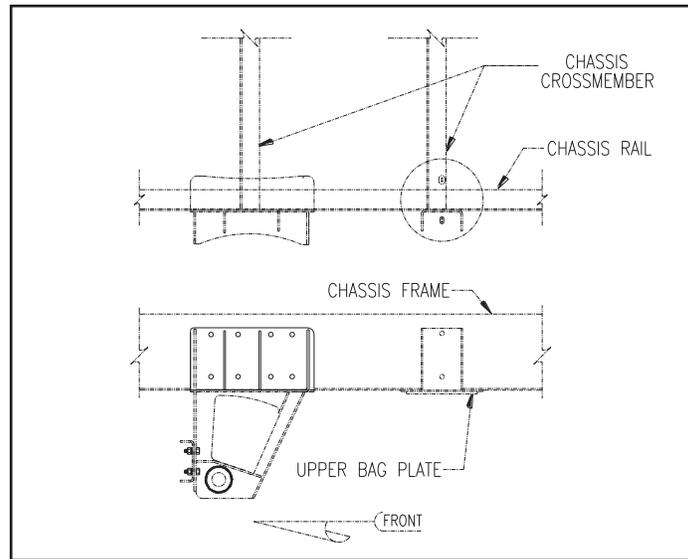

Figure 5-2
2. **IMPORTANT:** Check with customer or vehicle manufacture to determine if chassis frame has sufficient crossmember reinforcement location in the area where the auxiliary axle rail is located. Any crossmembers required are to be supplied by customer (See Figure 5-2 for suggested crossmember location).